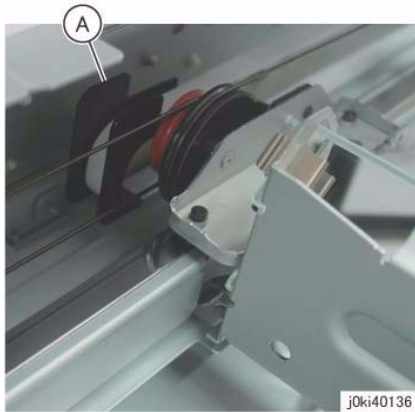

Figure 7 Install the LED Lamp Wire Harness
2. The LED Lamp Wire Harness is to be installed to the Harness Guide of the Half Rate Carriage. (Figure 7)